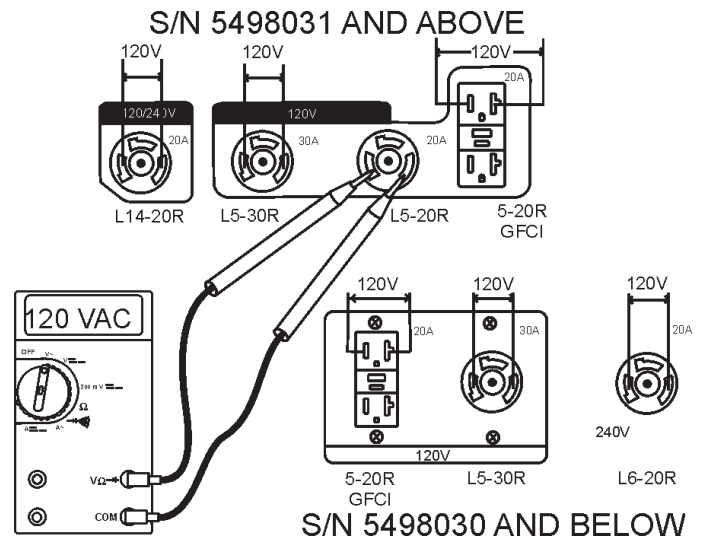

Figure 18. 120 VAC Receptacles
- If desired, verify with a voltmeter (Figure 18) that 120 VAC is present at the GFCI receptacle and the twist-lock receptacles as shown below.